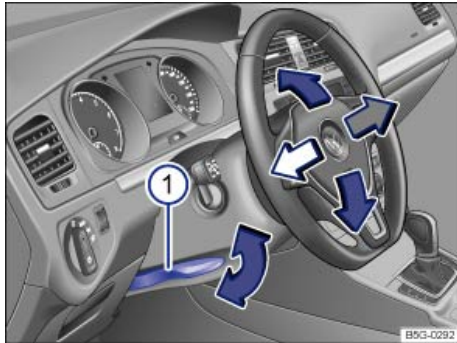

Fig. 44 Manual adjustment for the steering wheel position.
- Push down on the lever ⇒ fig. 44 (1).